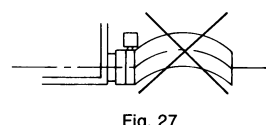

Fig. 27
- No folding of drain hose inside the indoor unit. (Refer to Fig. 27)